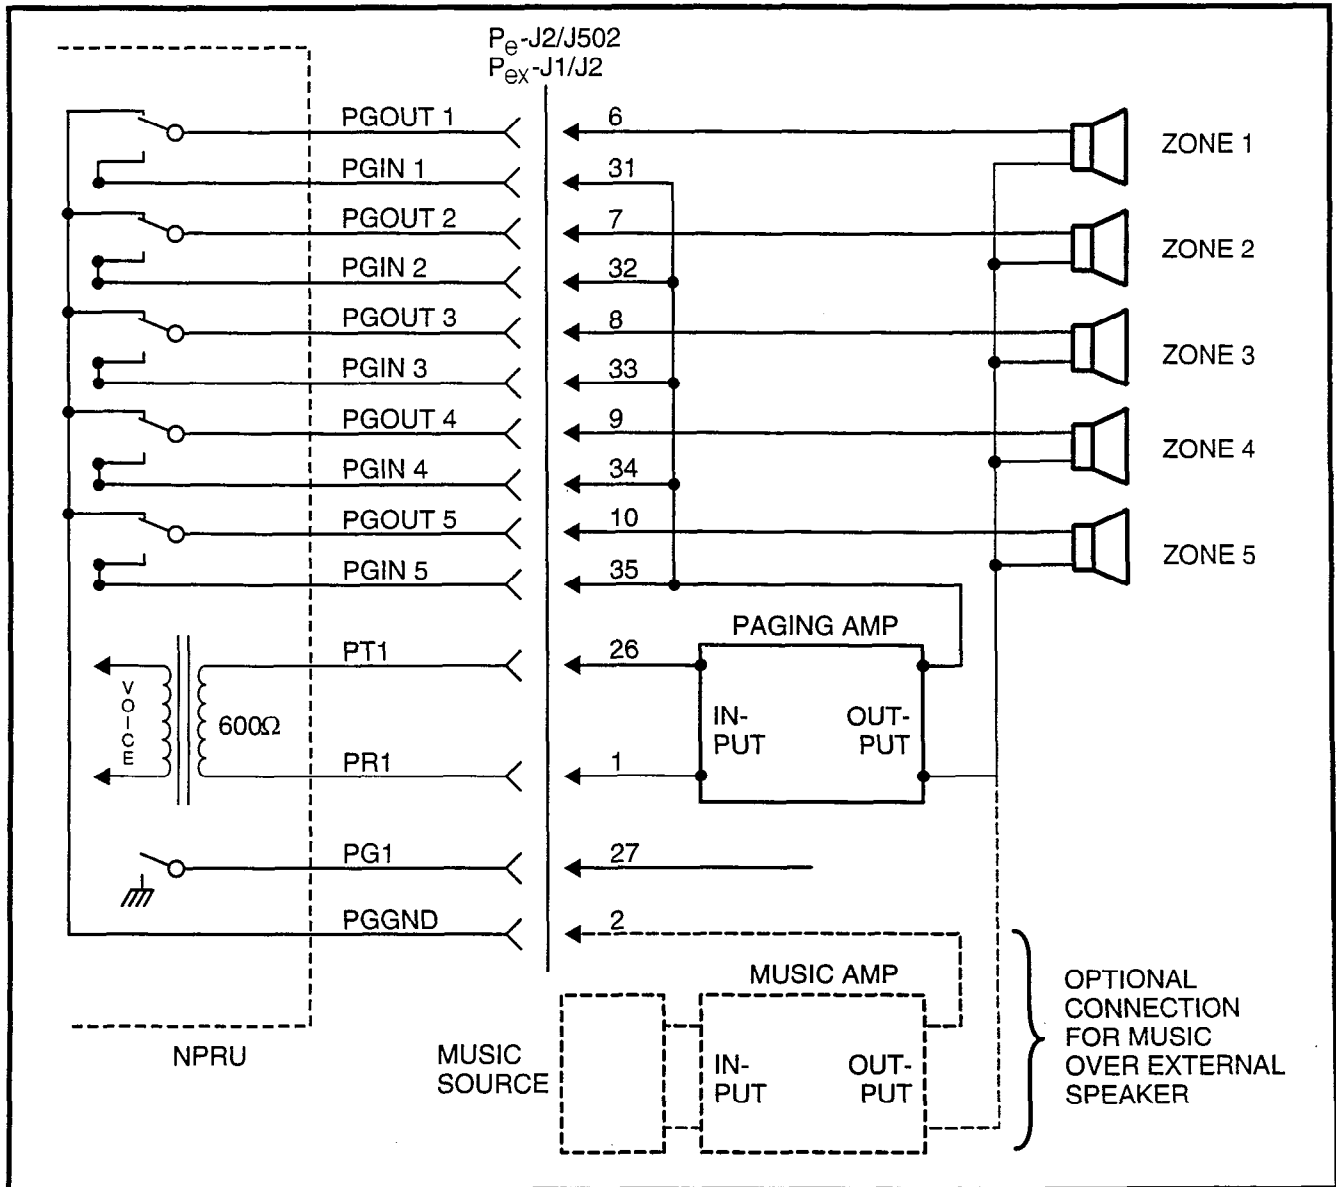

FIGURE 4-70—PAGING WITH ONE AMPLIFIER
- 1) If the music is supplied from a separate amplifier (as in Figures 4-70 and 4-71), it can be connected between the speaker common line and the **PG GND** input to the NPRU (PERCEPTION_e **J2/J502** and pin 2 or PERCEPTION_{ex} **J1/J2** and pin 2). The music will be connected to all speaker zones when no page is in progress. When a page access code is dialed, the music is disconnected from the zone and the page amplifier output is connected.